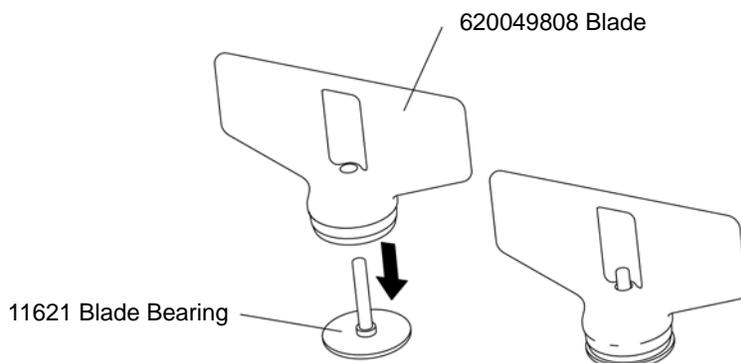

Figure 5
6. Locate the blade in the bowl. The magnet self-locates the blade, once it is moved into position. Make sure blade bearing is in place before placing it in the bowl, as shown in Figure 5.